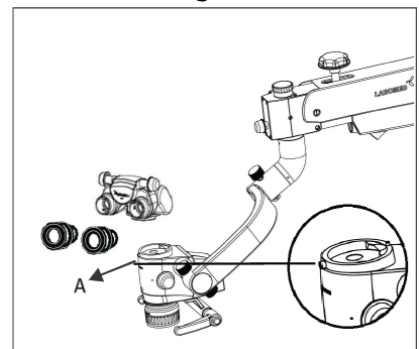

Fig. 40
- Take out the observation head (as ordered) and eye pieces from the box Referring fig. 40, loosen the tightening screw 'A' using 2mm Allen wrench (provided) and tight the observation Head in position carefully. Insert the eye pieces in both eye tubes and set both dioptr to zero.